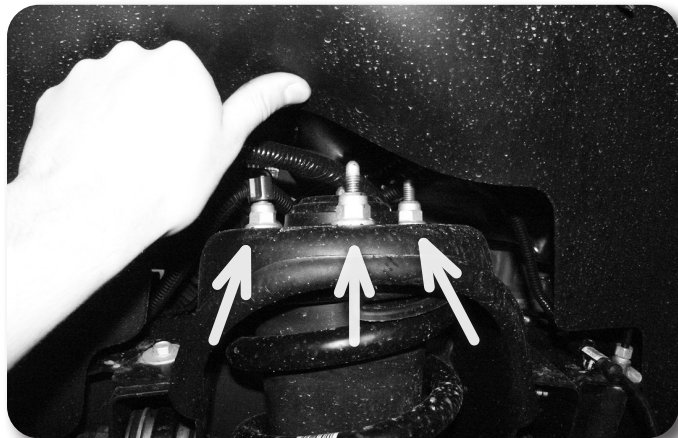

Figure 12
19. Remove the three upper strut mounting nuts **Fig. 12** and remove the strut from the vehicle. **DO NOT** remove the center strut rod nut, it is under extreme pressure. Save nuts.